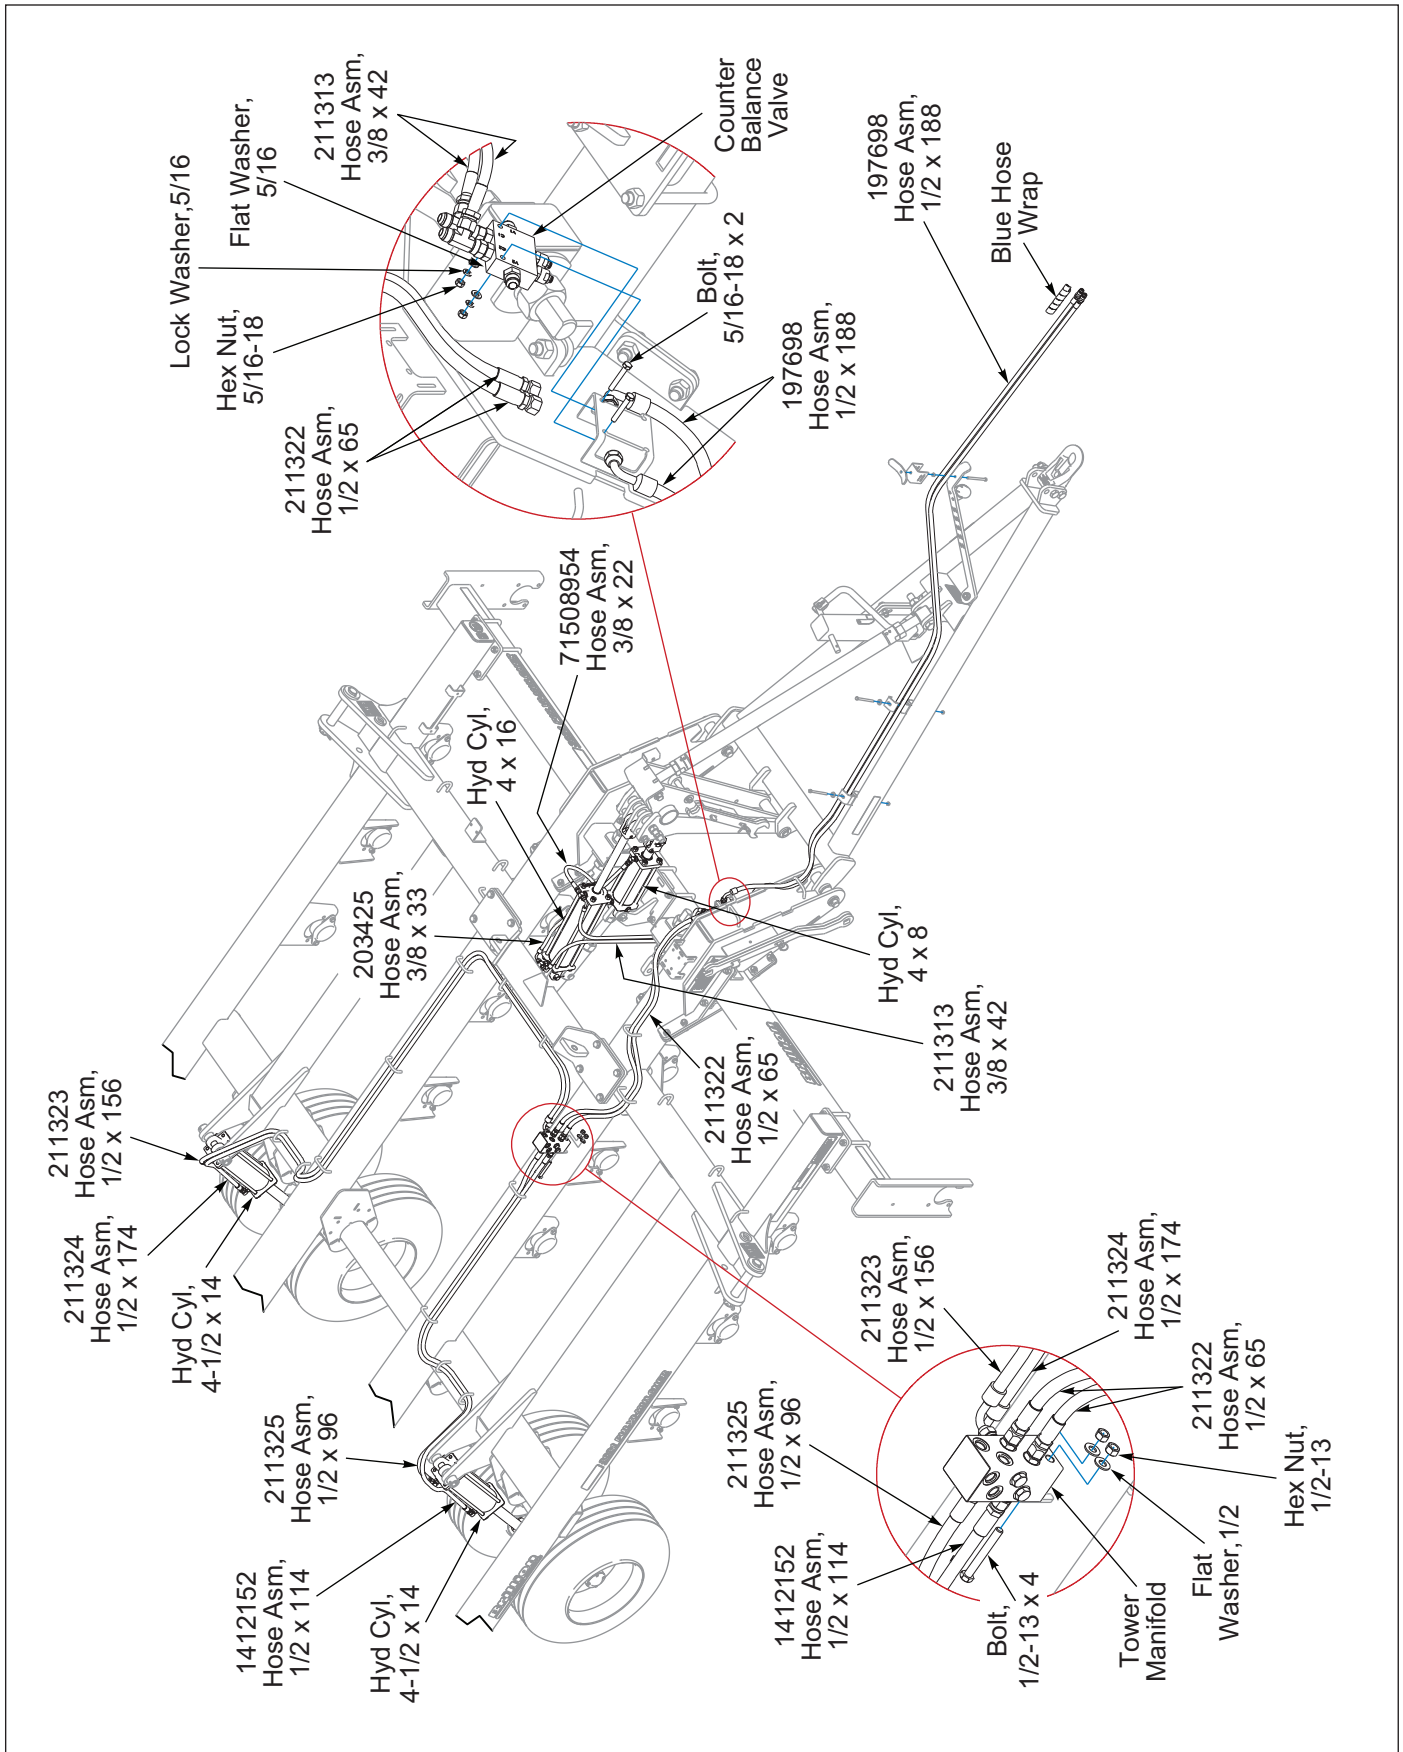

Figure 2-25: Hydraulic Lift Layout
3. Lift Circuit - Blue - **See Figures 2-25 and 2-26.** The Lift Circuit with machine raised, requires approximately 4.1 gallons of hydraulic oil and with machine lowered requires 3.7 gallons of hydraulic oil.
5. Install Restrictor and Branch Tee into the base end and O-Ring Branch Tee into the rod end of the 4 x 16 cylinder. **See Figures 2-25 and 2-26.**